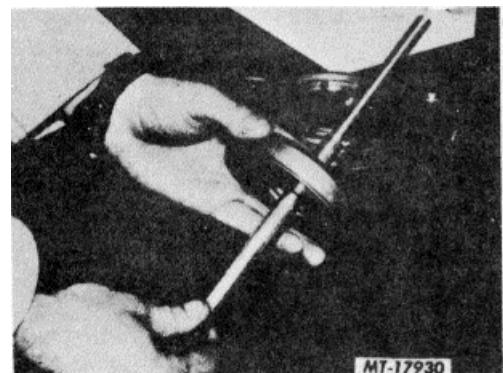

Fig. 11 Installing Oil Filter Separator
2. Slide oil filter separator over the cartridge bolt with the gasket surface next to the shell (Fig. 11).